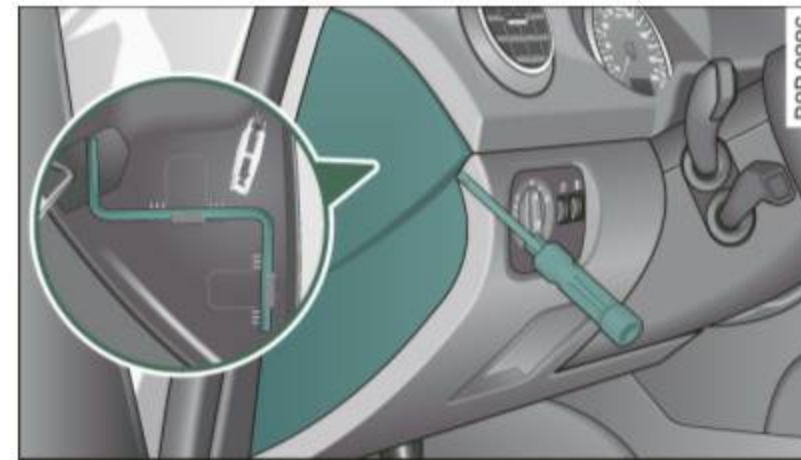

Fig. 47 Left end face of the instrument panel: fuse cover with hand crank
- Use the screwdriver to remove the fuse box cover ⇒ fig. 47.
- Install the end of the screwdriver handle onto the short side of the crank to help you turn it ⇒ *page 54*, fig. 47 ①.
- Return the crank to its location in the fuse box cover ⇒ *page 54*, fig. 47 and install the cover.